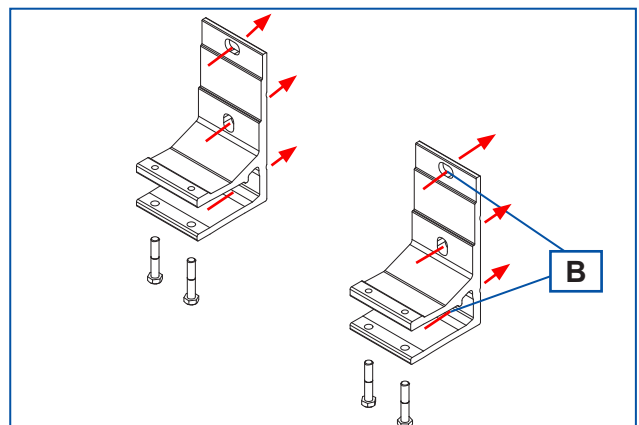

FIG. 5
- 4 ▫ Fasten the WALL BRACKETS, inserting the plugs into the holes made in the wall, and secure the brackets in the holes (B - fig. 5) which have already been prepared.